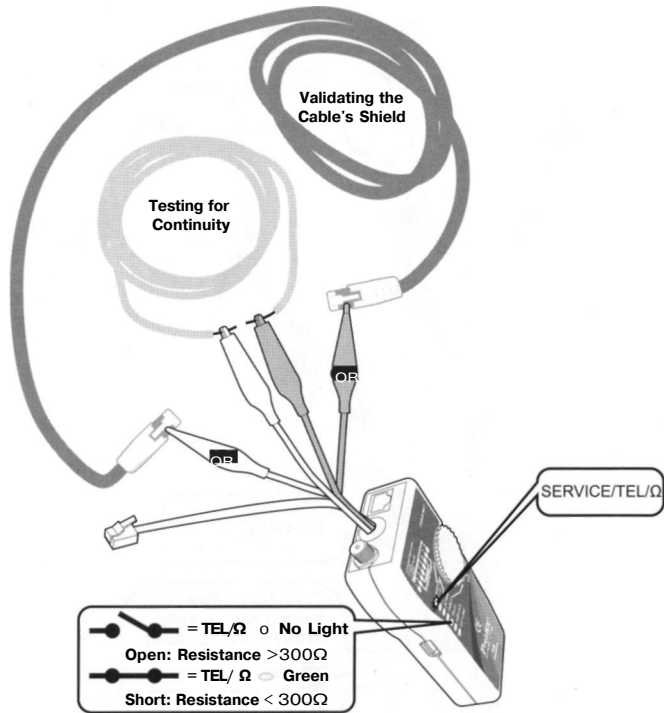

Figure 8 Continuity Test
- If you cannot locate the MT-7068 signal on 2-conductor cables, the cable may be shorted or opened. Use the Cable Map Testing (Fig. 5) to test for shorts or opens on cables with RJ11 and RJ45 connectors. Use the Continuity Test (Fig. 8) to check for shorts or opens on coax and non-terminated cables.
To validate cable shield during cable map tests, do the following as shown in Figure 8:
1. Connect the Toner to the circuit as shown in Figure 8. Connect the test leads to the telephone punch-down blocks, RJ11, and RJ45 jacks.